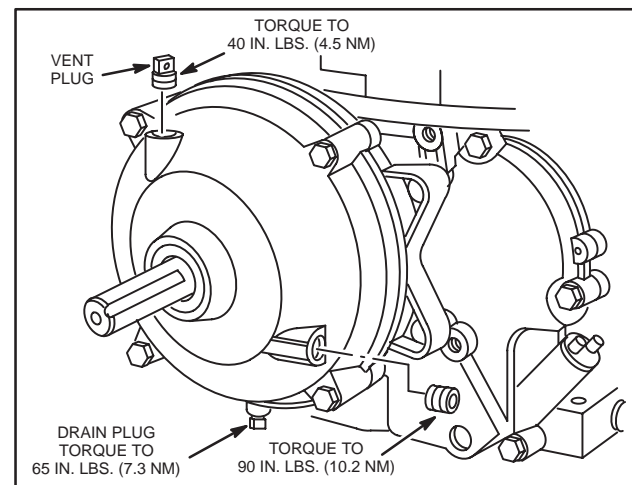

Fig. 143 – FILLING GEAR CASE
5. Install vent plug in top hole, if so equipped, and torque to 40 in. lbs. (4.5 Nm), Fig. 143.